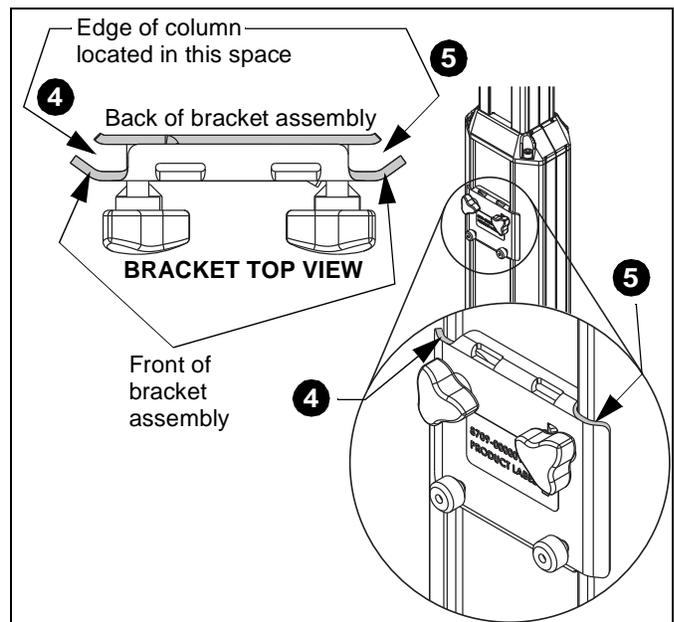

Figure 4
4. Attach LEFT SIDE of bracket assembly to PRSU column by ensuring that back of bracket is inserted into edge of column and front of bracket rests against front of PRSU column. (See Figure 4)
5. Attach RIGHT SIDE of bracket assembly to PRSU column by shifting right back bracket and right knob, as necessary, to allow tight attachment. (See Figure 4)
6. Be sure that **RIGHT** knob is shifted all the way to right, and then tighten **RIGHT knob FIRST**, followed by **LEFT knob** to complete attachment of shelf bracket. (See Figure 4)